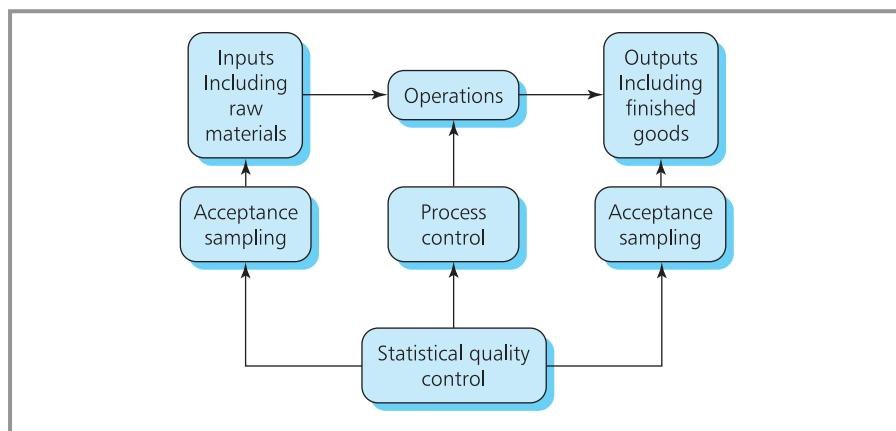

Figure 19.7 Aspects of statistical quality control
- **Acceptance sampling** checks the quality of a batch of products. It takes a sample of units from a batch and checks whether the whole batch is likely to reach an acceptable level of quality, or whether it should be rejected. These checks focus on materials entering a process and on products leaving the process (as shown in Figure 19.7).